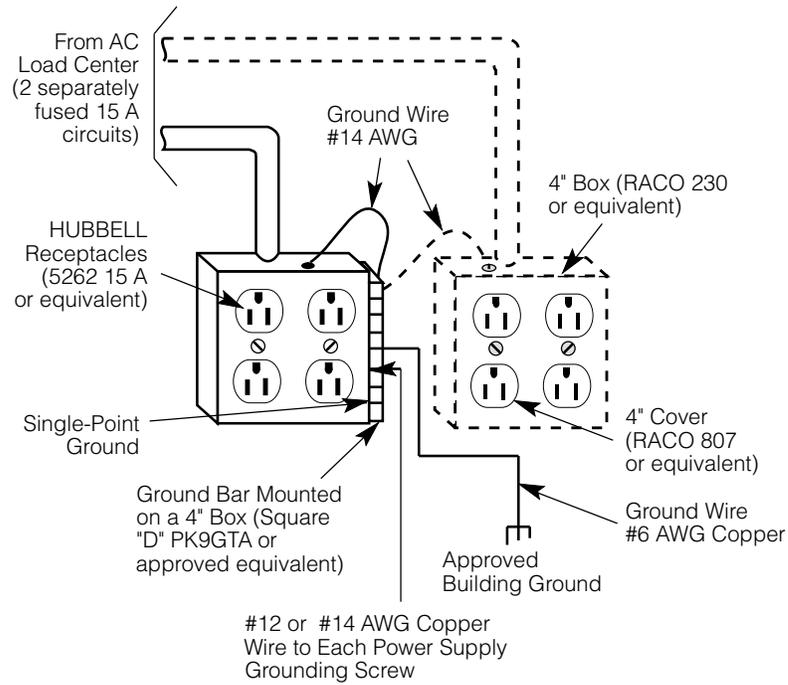
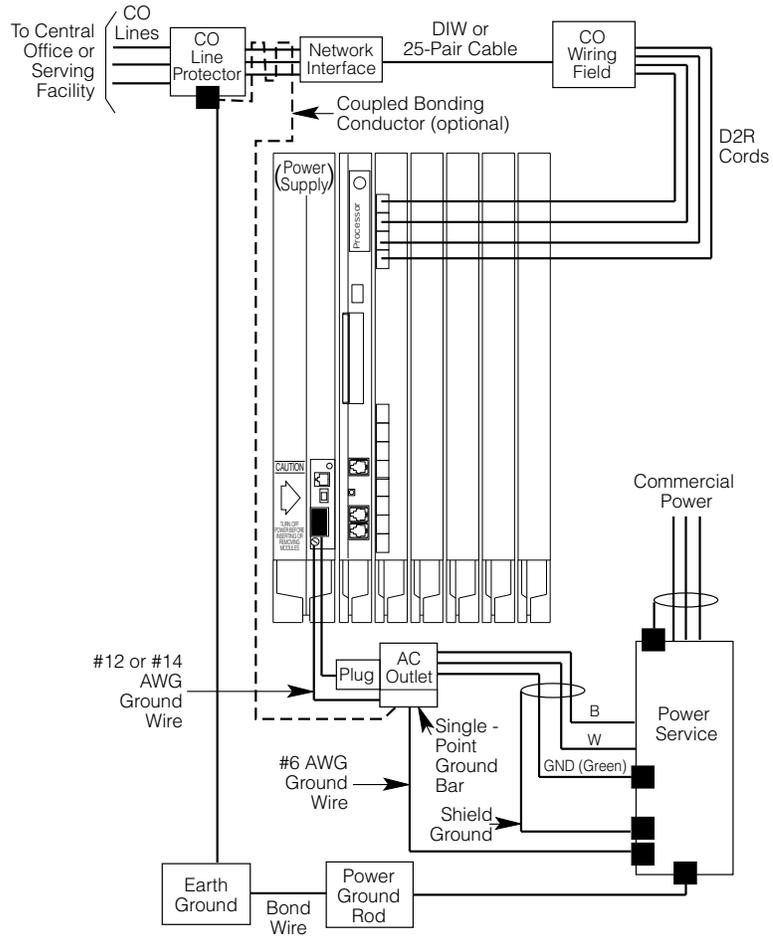

Figure 2-1. AC Grounding Requirements
Figure 2-3. Central Office and AC Grounds
- All AC outlets must connect to the same load center and the ground wire must connect to the single-point ground bar on the first AC outlet (see Figure 2-1).
- One outlet must have an attached ground bar connected by a #6 AWG copper wire to an approved ground (see “Approved Grounds,” later in this chapter, for a description of approved grounds). This ground bar is the system’s single-point ground (see Figure 2-1).
- Because equipment can be located throughout a building, the National Electrical Code requires that the ground point for the central office trunk protector be bonded to the AC power ground as shown in Figure 2-3.
- The AC outlet and the single-point ground bar must be properly grounded as shown in Figure 2-1 and Figure 2-3.
- Each power supply in the control unit must be connected to the single-point ground bar by a #12 AWG or a #14 AWG solid copper wire. Figures 2-1 and 2-3 show this connection.